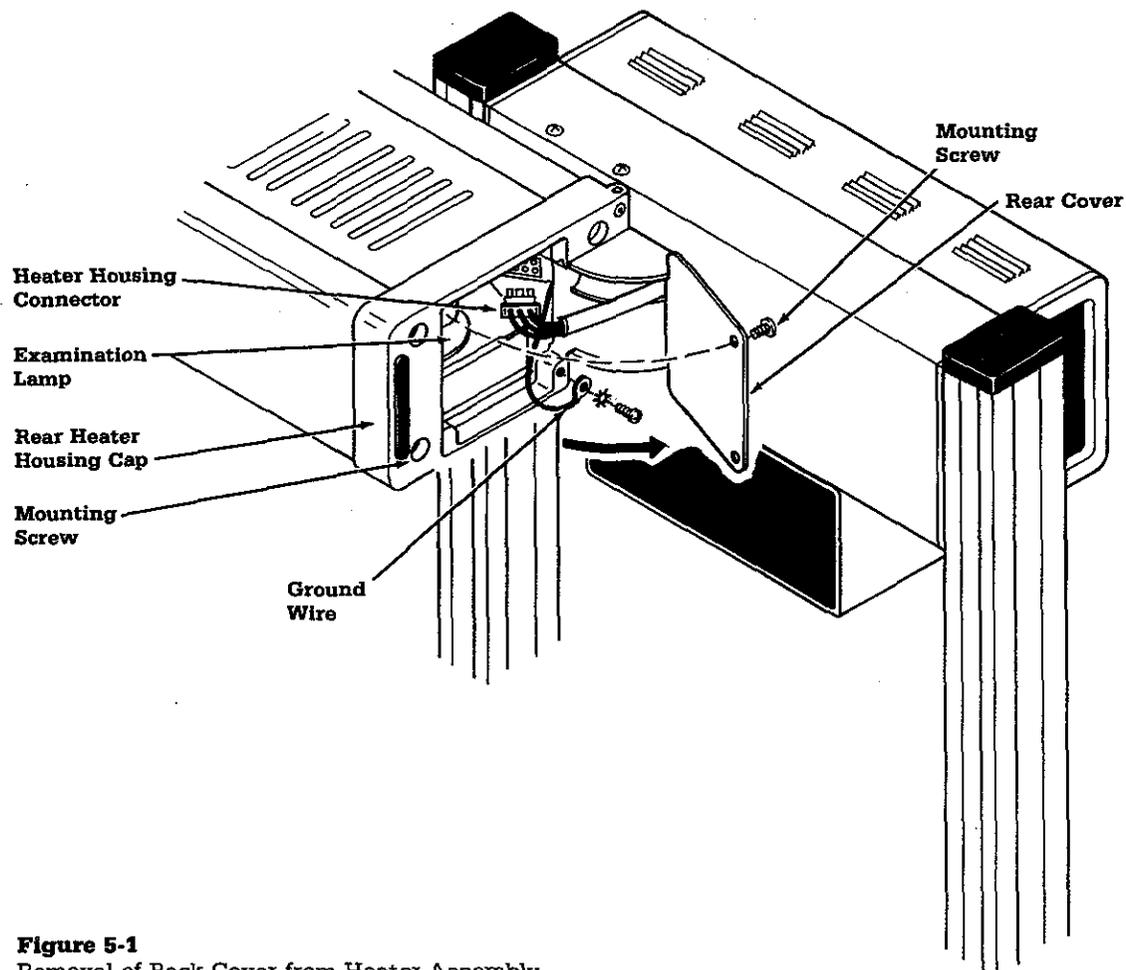

Figure 5-1
A. Heater Housing Disassembly (Figures 5-1 and 5-2)
C. Heater Housing Assembly (Figures 5-1 and 5-2)